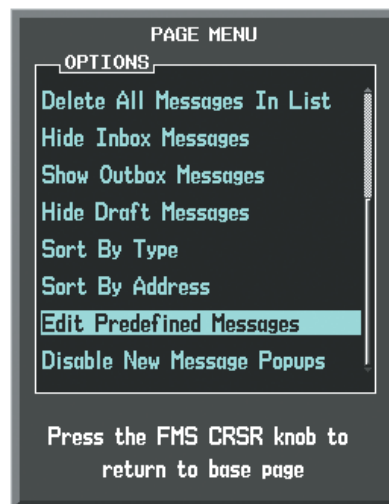

Figure 8-102 Creating/Editing Predefined Messages
- 2) Turn either **FMS** Knob to select 'Edit Predefined Messages' as shown in Figure 8-102.